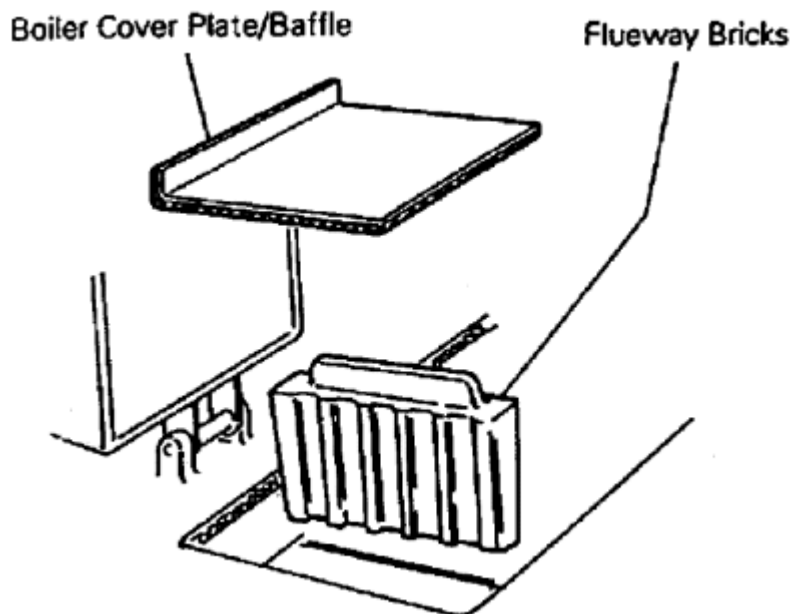

Fig.18
- b. Lift out boiler combustion separator baffle and remove boiler flueway firebricks - See Fig.18.